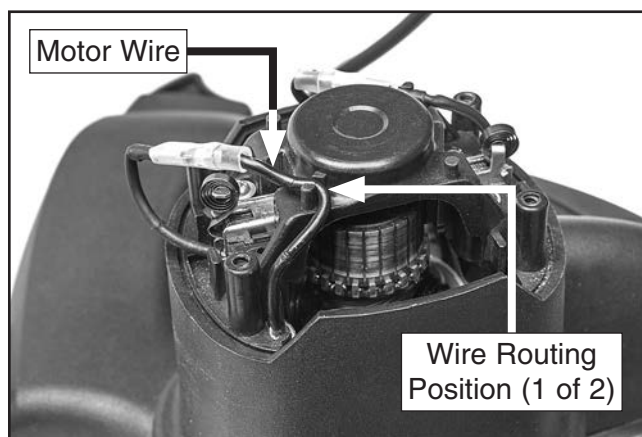

Figure 34. Motor brush wire routing position.
9. Route motor wires through wire routing positions (see **Figure 34**).